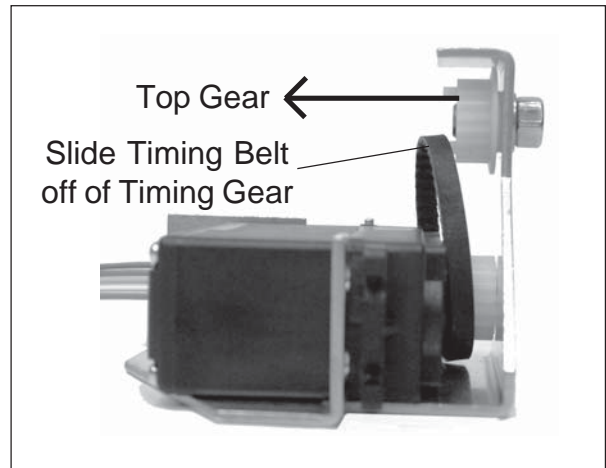

Figure 3-16. Removing Top Gear.
3. Refer to Figure 3-16 and slide the Timing Belt off of the Top Gear and remove the Top Gear.
2. Slide on the Top Gear as shown in Figure 3-16.